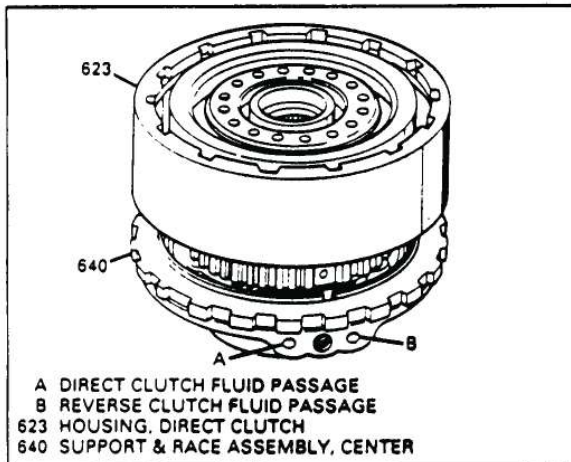

Figure 74
23. Install the assembly onto center support and air check for proper operation, as shown in Figure 74.